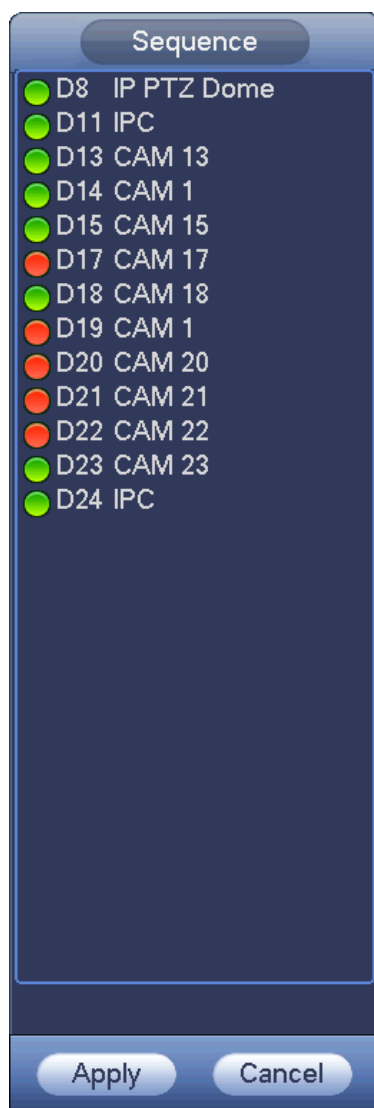

Figure 4-67
Step 1 On the preview interface, right click mouse and then click Edit view. Enter edit view interface. See Figure 4-67.
- In case the channel amount has exceeded the device max split amount, the edit view interface can display the max screen number amount and current screen number. In Figure 4-67, click  or , switch the video from other channel.